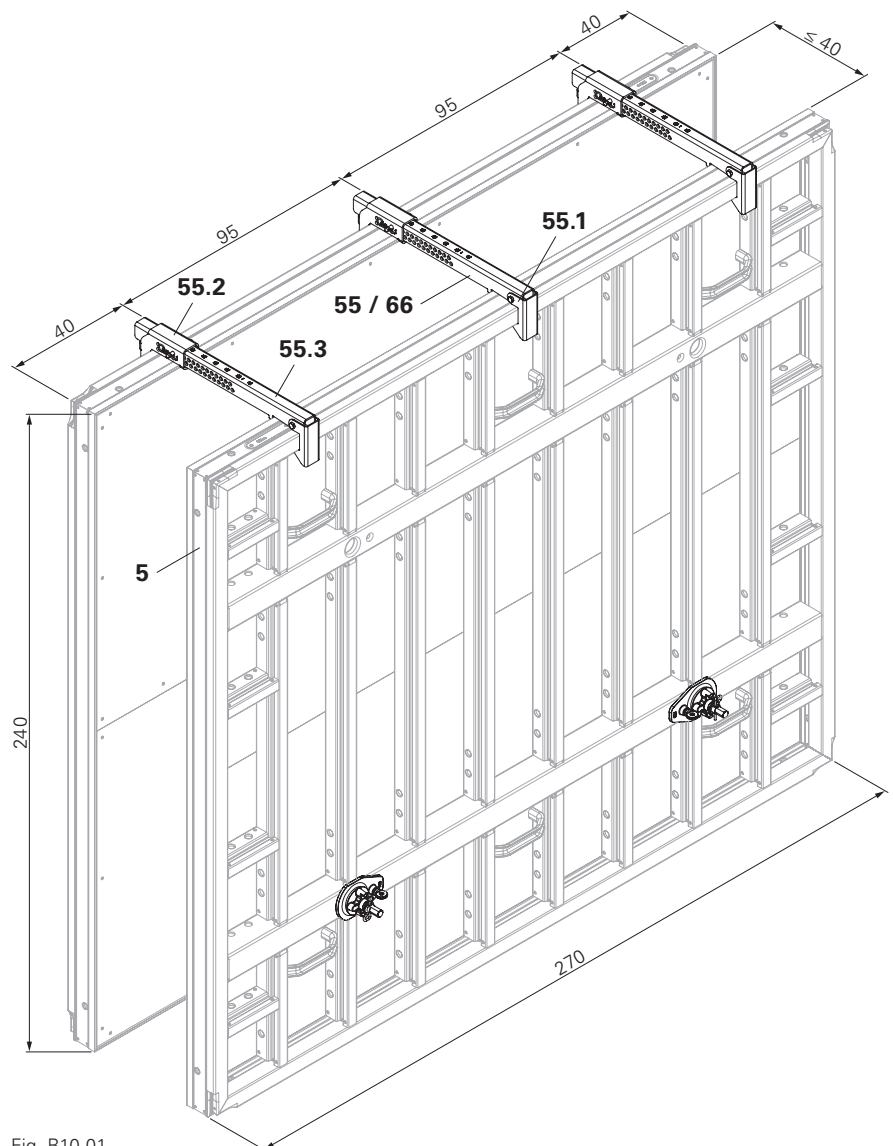

Fig. B10.01
- The panels are braced by the three Push-Pull Spreaders MX (**55 / 66**). (Fig. B10.01)